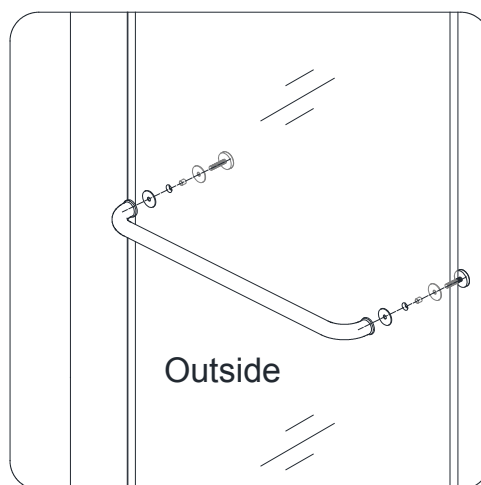

Fig 11
11. Attach the **Towel Bar (#18)** to the outside of the **Stationary Glass (#05)**. **(Fig 11)**